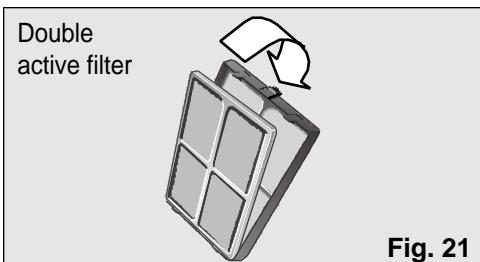

Fig. 21
A double active filter is also fitted inside the basic filter on these models, Fig. 21.
- ❑ Change the double active filter inside the basic filter for a new one as shown in Fig. 21.